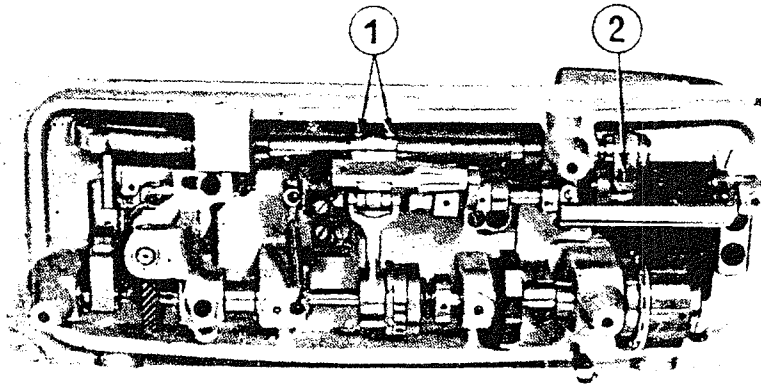
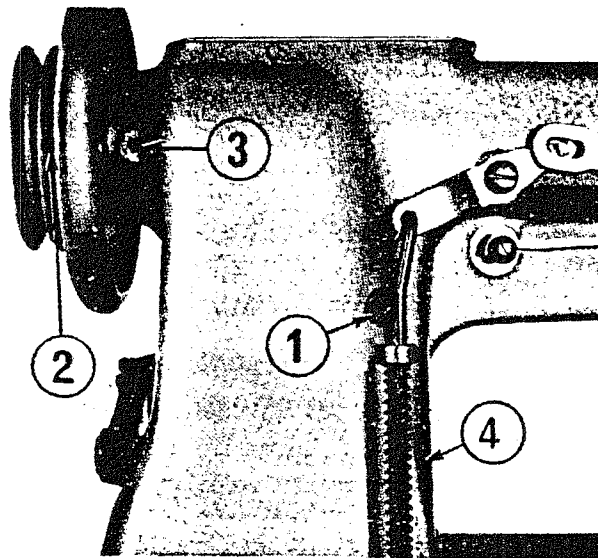
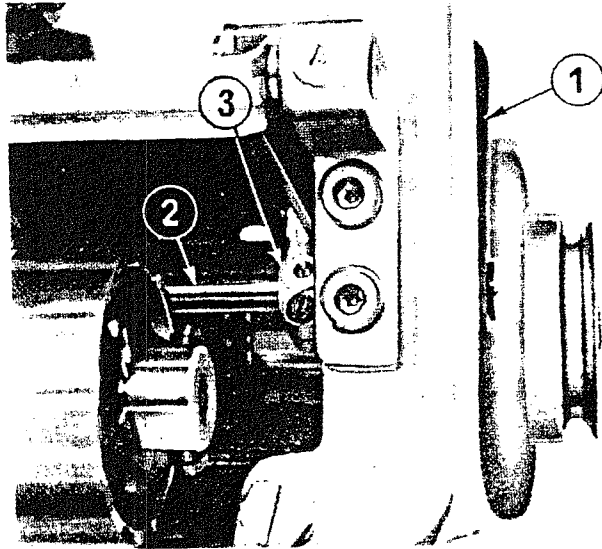

Fig. 18
Fig. 24
Fig. 25
When the stitch length is set at "0" and if the relative position of walking bar with the presser bar is not right, loosen the 2 screws of the feed rock shaft crank (Fig. 18 133), match the clearance between the presser bar and the walking bar at 8.54 mm (21/64") and then tighten the screws.
Also, to set the correct relative position of the needle bar frame with that of the feed dog, first, set the stitch length at "0", then loosen the screw (Fig. 18 ②) of the driving rod crank and loosen the screw of the needle bar shaft rear crank from the hole (Fig. 25 ①) in the back of the arm. And further, when the needle comes near the center or front half of the hole of the feed dog, and holding this position make the driving rod crank parallel to the surface of the bed and tighten the 2 screws.
Remove the face plate and the needle bar frame, insert a screw driver into the hole (Fig. 24 1 ), loosen the screw of the needle bar frame rock shaft crank and take out the needle bar frame rock shaft.
Loosen the 2 set screws of the belt groove of the hand wheel (Fig. 24 ② ) and pull out the hand wheel. Then, loosen the main shaft rear bushing set screw (Fig. 24 ③ ), remove the top cover, loosen the 2 screws of the main shaft rear bushing at the right side of the upper sprocket wheel and draw out the main shaft rear bushing from the frame.
Then, remove the reverse feed control lever (Fig. 25 ① ). To do this, remove the tension spring which is hooked to the top cover, tilt the machine and by loosening the 2 screws (Fig. 25 ③ ) of the reverse feed control lever shaft, remove the screw (Fig. 24 ④ ) of the reverse feed control lever shaft. After that, pull out the lever shaft together with the reverse feed control lever.